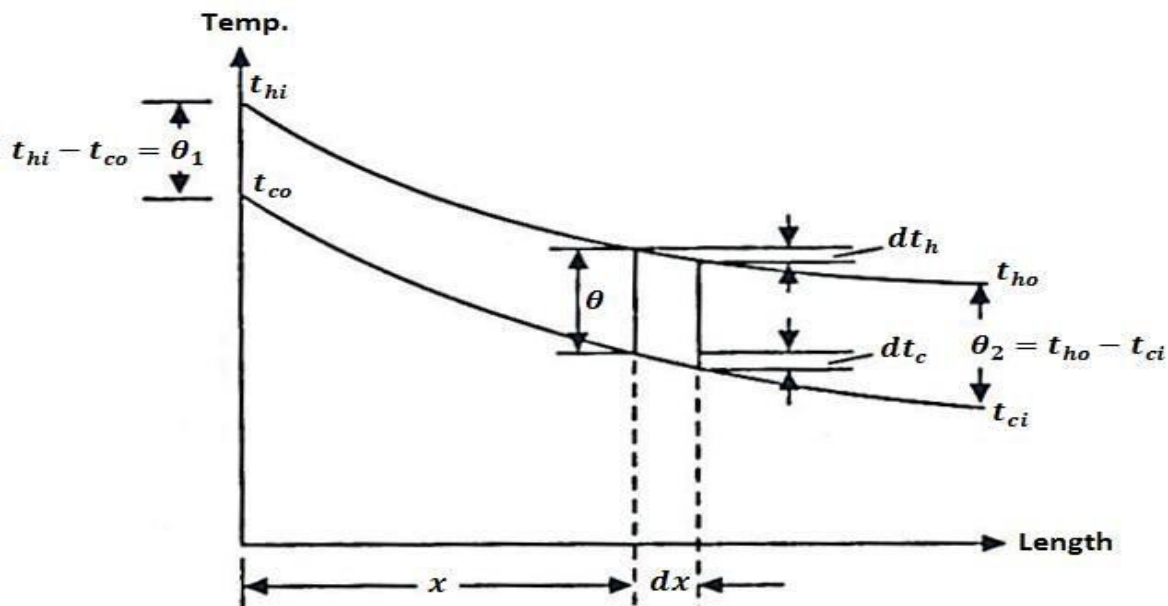

Fig. 9.9(a) Temperature changes of fluids during counter flow arrangement
- Consider heat transfer across an element of length dx at a distance x from the entrance side of the heat exchanger as shown in Fig. 9.9(a).
- Due to heat exchange, the temperature of hot and cold fluid decreases by dt_h and dt_c respectively in the direction of heat exchanger length (Refer Fig. 9.9(a)).